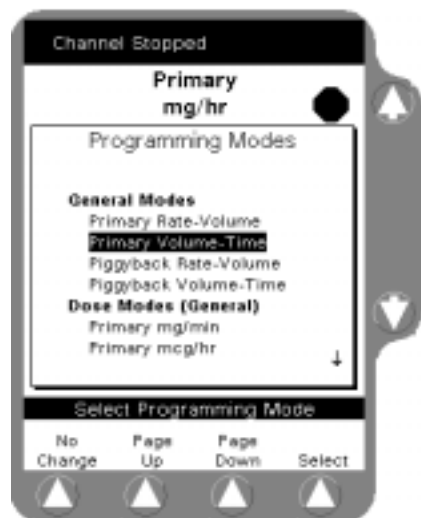

Figure 5-24 Change Mode Screen
3. From the Change Mode screen (Figure 5-24), highlight the Primary Volume-Time or Piggyback Volume-Time, then press the **Select** soft key.